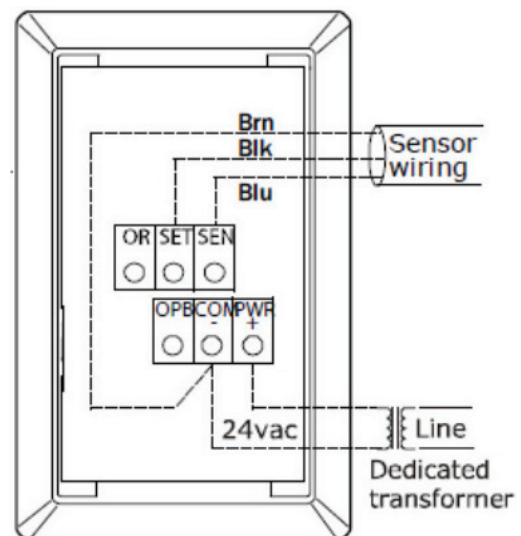

Fig. 41 — Space Temperature Sensor Typical Wiring (33ZCT59SPT)
- Space temperature sensor (33ZCT59SPT) with occupancy override button, set point adjustment, and Liquid Crystal Display (LCD) (see Fig. 41)